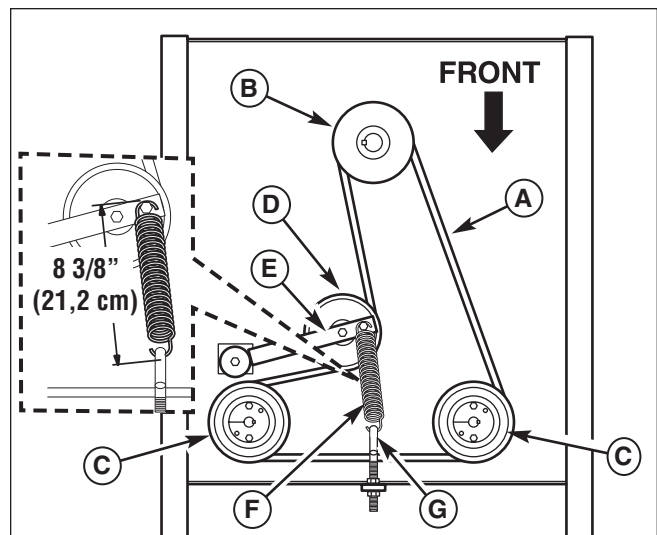

Figure 43. Hydraulic Pump Drive Belt Replacement
4. Loosen the nut towards the front of the machine on the spring anchor hook (G, Figure 43) to release the majority of the belt tension. Use caution and remove the nut to completely release the tension.
6. Reinstall the anchor hook (G) into the anchor tab and loosely fasten the nut. Adjust the anchor hook until a measurement of 8-3/8" (21,2 cm) is achieved from the outside of the spring hooks. Tighten nut.